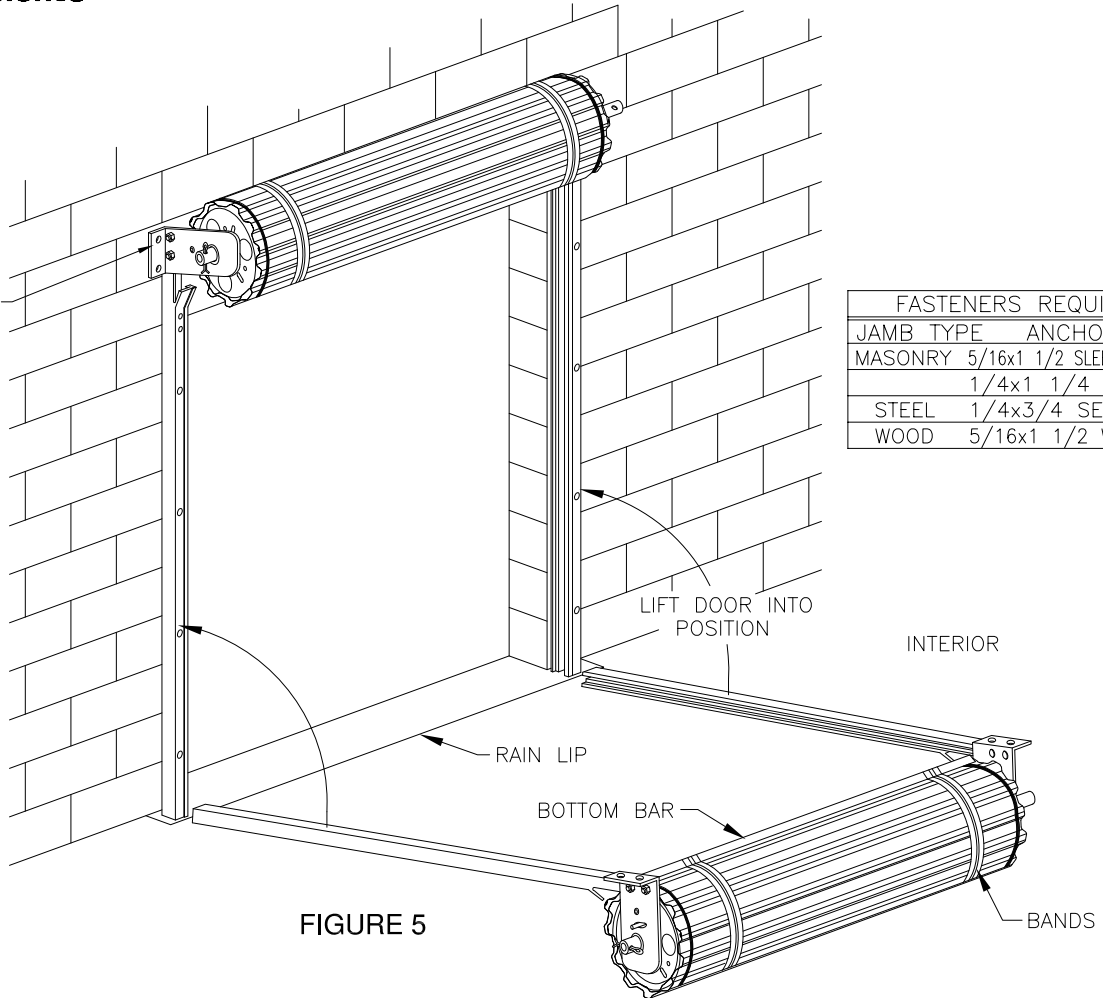

FIGURE 5
PLACE BOTTOM OF GUIDES AGAINST THE WALL AT DOOR JAMB (DOOR CENTERED IN OPENING), LIFT BOTH ENDS OF DOOR EVENLY AND WALK INTO POSITION AT DOOR HEADER. WHILE ONE INSTALLER HOLDS DOOR IN PLACE, THE SECOND INSTALLER SHOULD VERIFY THAT DOOR IS CENTERED IN OPENING AND CHECK PLUMB OF GUIDES. IF DOOR IS NOT CENTERED IN OPENING, DOOR CAN BE EASILY MOVED LEFT OR RIGHT. ALLOW 3/8" CLEARANCE FROM CURTAIN ROLL END AND INSIDE OF VERTICAL GUIDE RAILS. ATTACH DOOR BRACKET AND GUIDE TO BUILDING AT DOOR BRACKET ONLY. DOOR BRACKETS SHOULD NOW SUPPORT DOOR (SEE FIGURE 5 ABOVE). NOTE: EACH BRACKET REQUIRES (2) FASTENERS TO ATTACH IT TO JAMB.